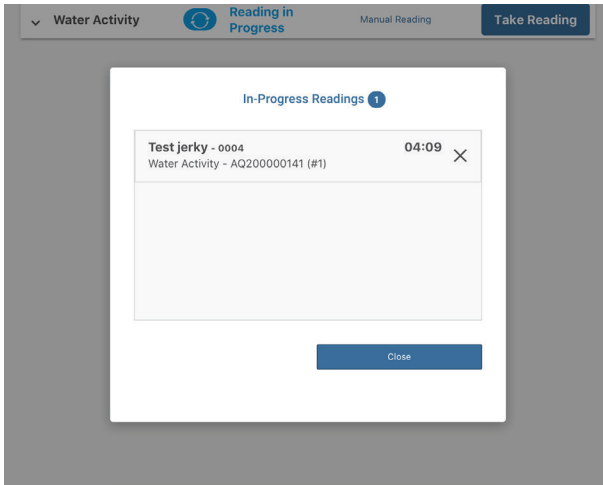

Figure 57 In Progress Reading popup window
The In Progress Readings popup window will appear (Figure 57).
12. Select the **Close** button to close the In-Progress dialog window and return to the readings window (Figure 57).